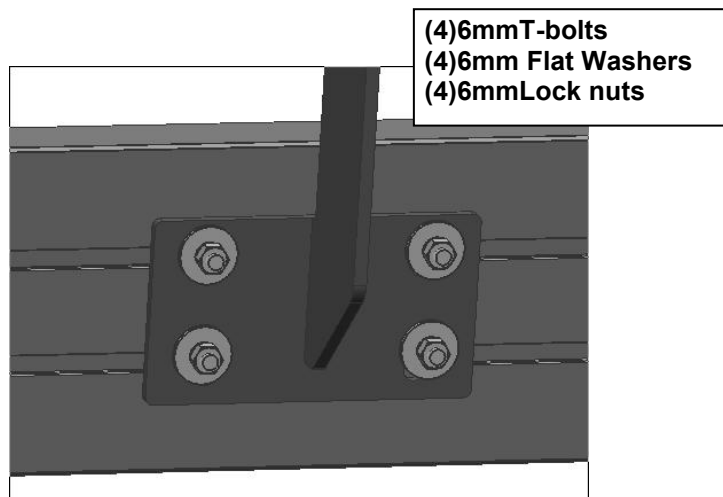

Fig 16 Bracket Installation
6. Once all (2) Brackets have been installed, Select a Running Board. Slip (8) 6mm T-Bolts into each bottom channel (**Figure 15**). Carefully position the Running Board onto the Mounting Brackets. Attach the Running Board to the Mounting Brackets with (4) 6mm T-bolts, (4) 6mm flat washers and (4) 6mm lock nuts, (**Figure 16**). Do not tighten hardware at this time